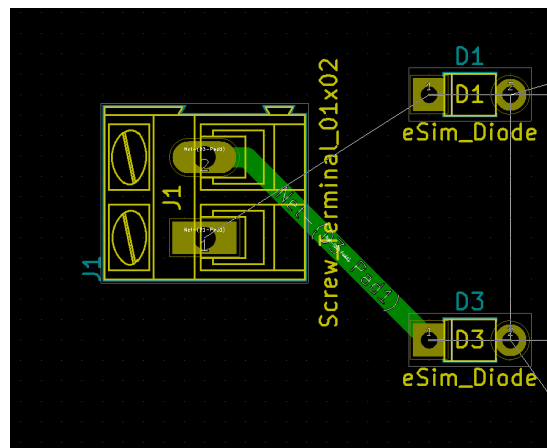

Figure 13.19: Track placed on B.Cu. between Screw\_Terminal\_01x02 connector and D3 Diode
4. Working layer is B.Cu., Place Track tool is selected earlier. Click the pencil icon tied to cursor on the Node 2 of Screw\_Terminal\_01x02 and drag the cursor till Node 1 of D3 diode and double click on Node 2 of D3. By double clicking the track will end at Node 2 of D3. Please refer Fig. 13.19 for the mentioned track being placed.